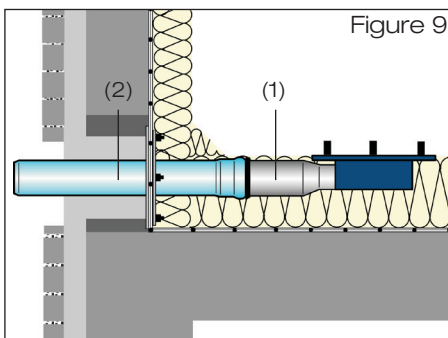

Figure 9
- 2.1 Adjust the length of the discharge pipe (1) of the drain on site. Apply LORO-X lubricant to the gaskets of the sliding flange and the pipe ends (2) of the LORO-X pipe. Cut out the thermal insulation panel in the area of the drain basin. According to the flat roof regulations, the fixed flange of the roof drain should be flush-mounted into the substrate. Insert the LORO-X pipes into the gaskets of the sliding flange. Insert the sealing element into the pipe socket and coat with LORO-X lubricant. Apply LORO-X lubricant to the discharge pipes of the drain. Insert the discharge pipes into the sealing elements of the LORO-X pipe. Fasten both the drain and the thermal insulation panel (Fig. 9). Close up any holes that have been made in the thermal insulation using suitable materials. Apply adequate quantities of thermal insulation to the discharge pipes in the area of the wall. Lay thermal insulation panels.